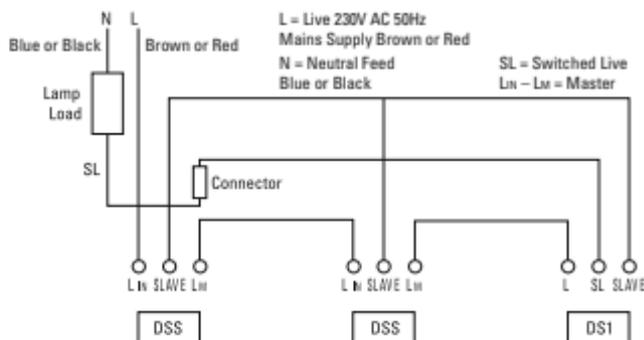

Fig 7 – Replacement Delay Switches fitted to circuit shown in fig. 5
- The circuits for both wiring systems with the replacement switches are shown in figs 7 and 8. No wiring alterations are required but to establish which wires are connected to which terminals the wires must be identified and traced. An in-line connector is required for the Strapping Cable System to provide continuity for the SL connection.